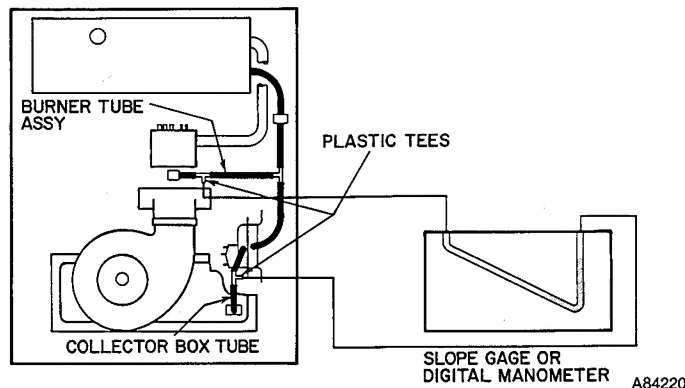

Fig. 6—Tuning Valve Adjustment
1. Install field-supplied plastic tee between pressure tap on bottom of gas valve and pressure tube as shown in Fig. 6.
2. Install second field-supplied plastic tee between pressure switch and pressure tube from collector box. See Fig. 6.
3. Connect slope gage to tees (Fig. 6.)